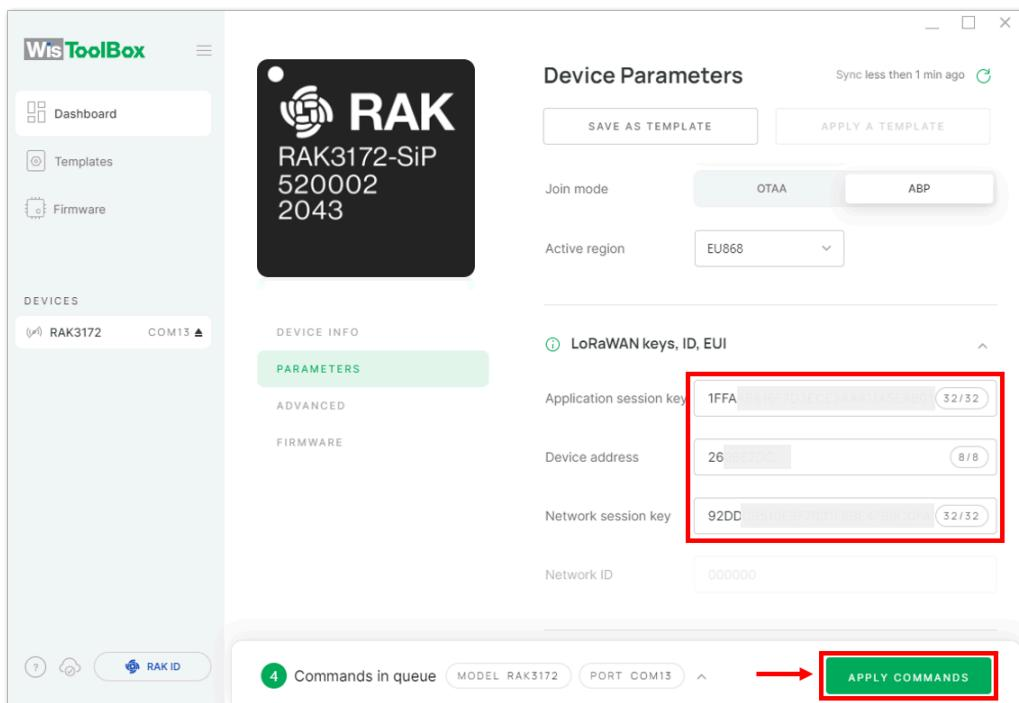

Figure 150: Used credentials from your console in WisToolBox dashboard
8. Then go back to the console where your RAK3172-SiP End device is created previously. Then copy all the credentials from there. Those will be the ones to be used also in the WisToolBox dashboard. Once encoded into the dashboard, click **APPLY COMMANDS** to update your device as shown in **Figure 150**.